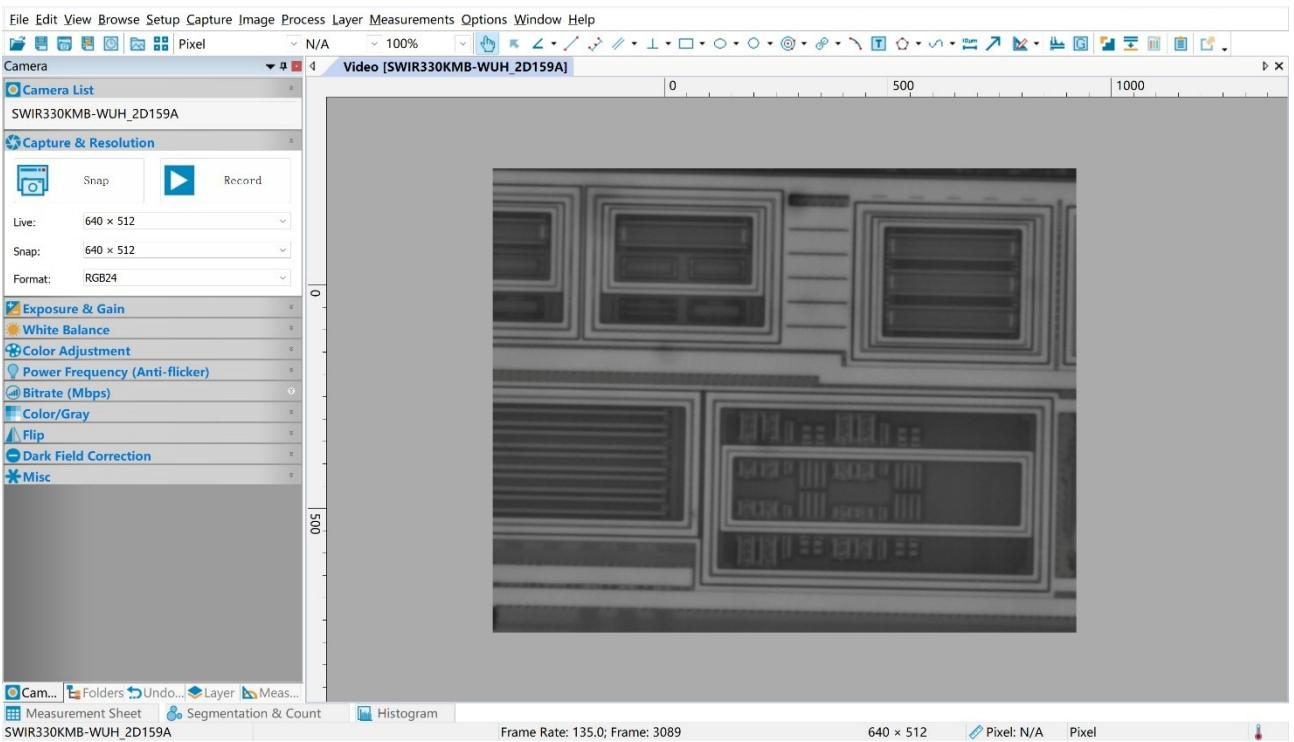

Figure 9 EHDView and EHD330KMB-WUH Camera in WiFi AP Mode
- Start **EHDView/EHDLite** software or **EHDView App** and check the configuration. Normally, the active SWIR330KMB-WUH cameras will be automatically recognized. The live image of each camera is shown in Figure 9. For the display, the **Camera List** tool window is used in **EHDView/EHDLite** software, and the **Camera Thumbnail** is used in **EHDView App**.